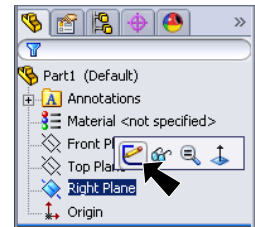
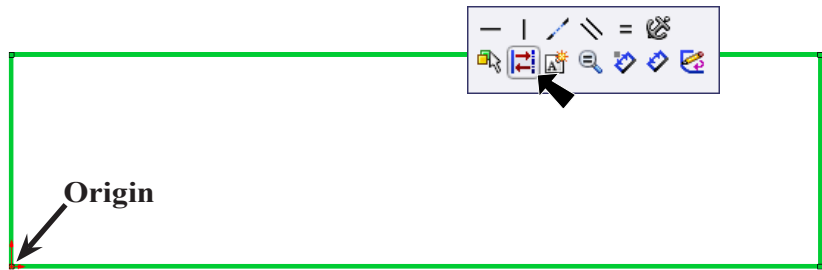

Fig. 2
Fig. 3
Step 1. Click **Right Plane**  in the Feature Manager and click **Sketch**  from the Content toolbar, **Fig. 2**.
Step 2. Click **Rectangle**  (S) on the Sketch toolbar.
Step 3. Draw a rectangle starting at the Origin  and before you move the cursor away from the rectangle, **right click a line** and click **Construction Geometry**  on the Content menu, **Fig. 3**.